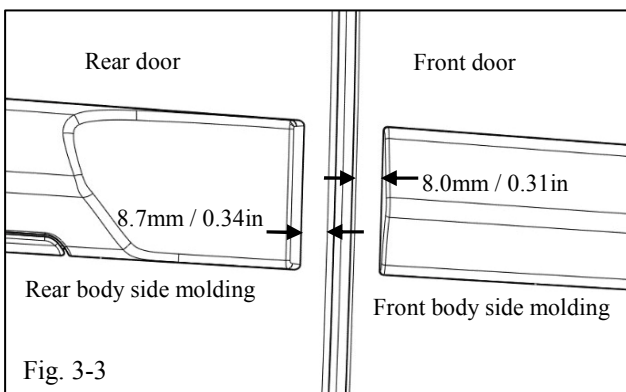

Fig. 3-3
-  (c) Align the rear edge of the front molding with the vertical mark on the tape located 8.0mm (0.3 in) forward of the rear edge of the front door (Fig. 3-3).